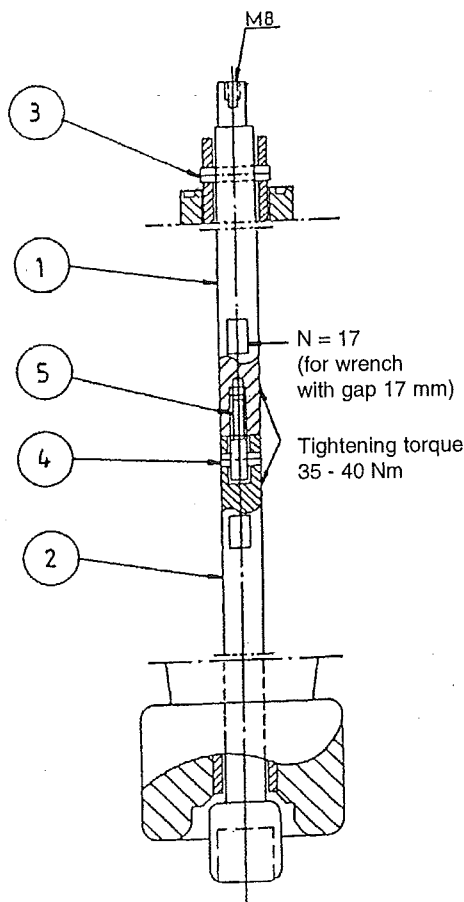

Fig. 8. Solid conductor 800 A
10. Lock the solid rod with the locking pin according to Figs. 8 and 9.